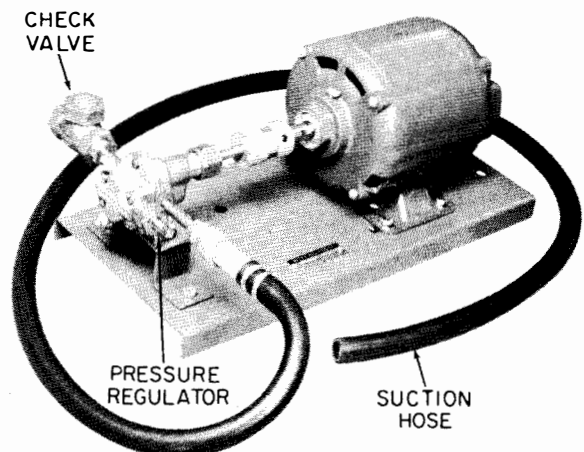

Fig. 20 --- DUSTIK Pump
**DUSTIK PUMP** (Figure 20) should be installed outside the duct on the floor adjacent to the power end sheet. See Figure 24. The hose is for drawing DUSTIK adhesive from a container to the pump. Pump includes a built-in adjustable pressure regulator and a check valve in the discharge line. The liquid inlet and outlet ports of the pump are clearly labelled.
**DUSTIK PUMP MOTOR** (Figure 20) should be wired as indicated on the wiring diagrams.